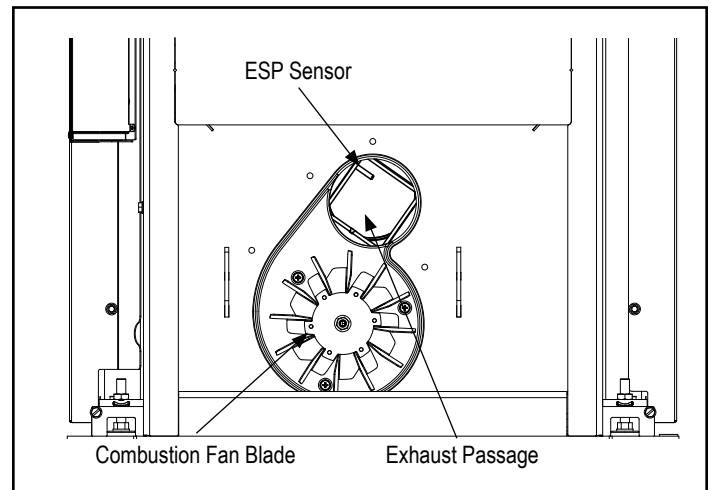

Figure 2.8
- Clean exhaust passage. Figure 2.8.